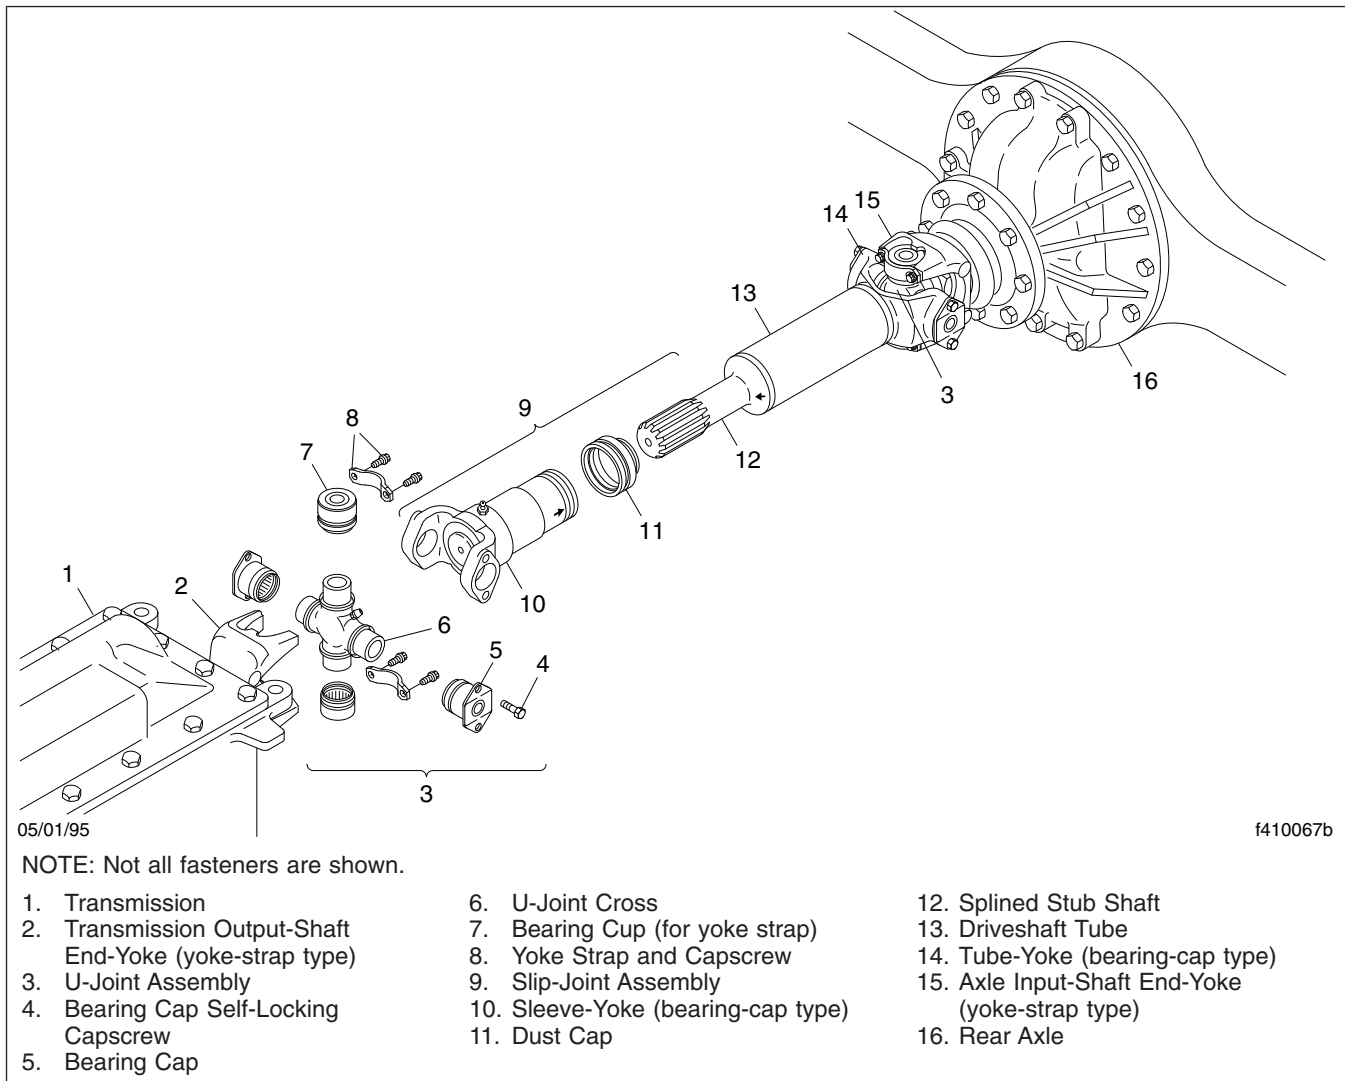

Fig. 3, Components of a Basic Driveline
For U-joints with yoke straps, tighten yoke-strap capscrews 125 lbf-ft (169 N·m). See Fig. 3.
3. Check the driveline yokes for cracks, and check end-yokes for looseness. See Fig. 3.